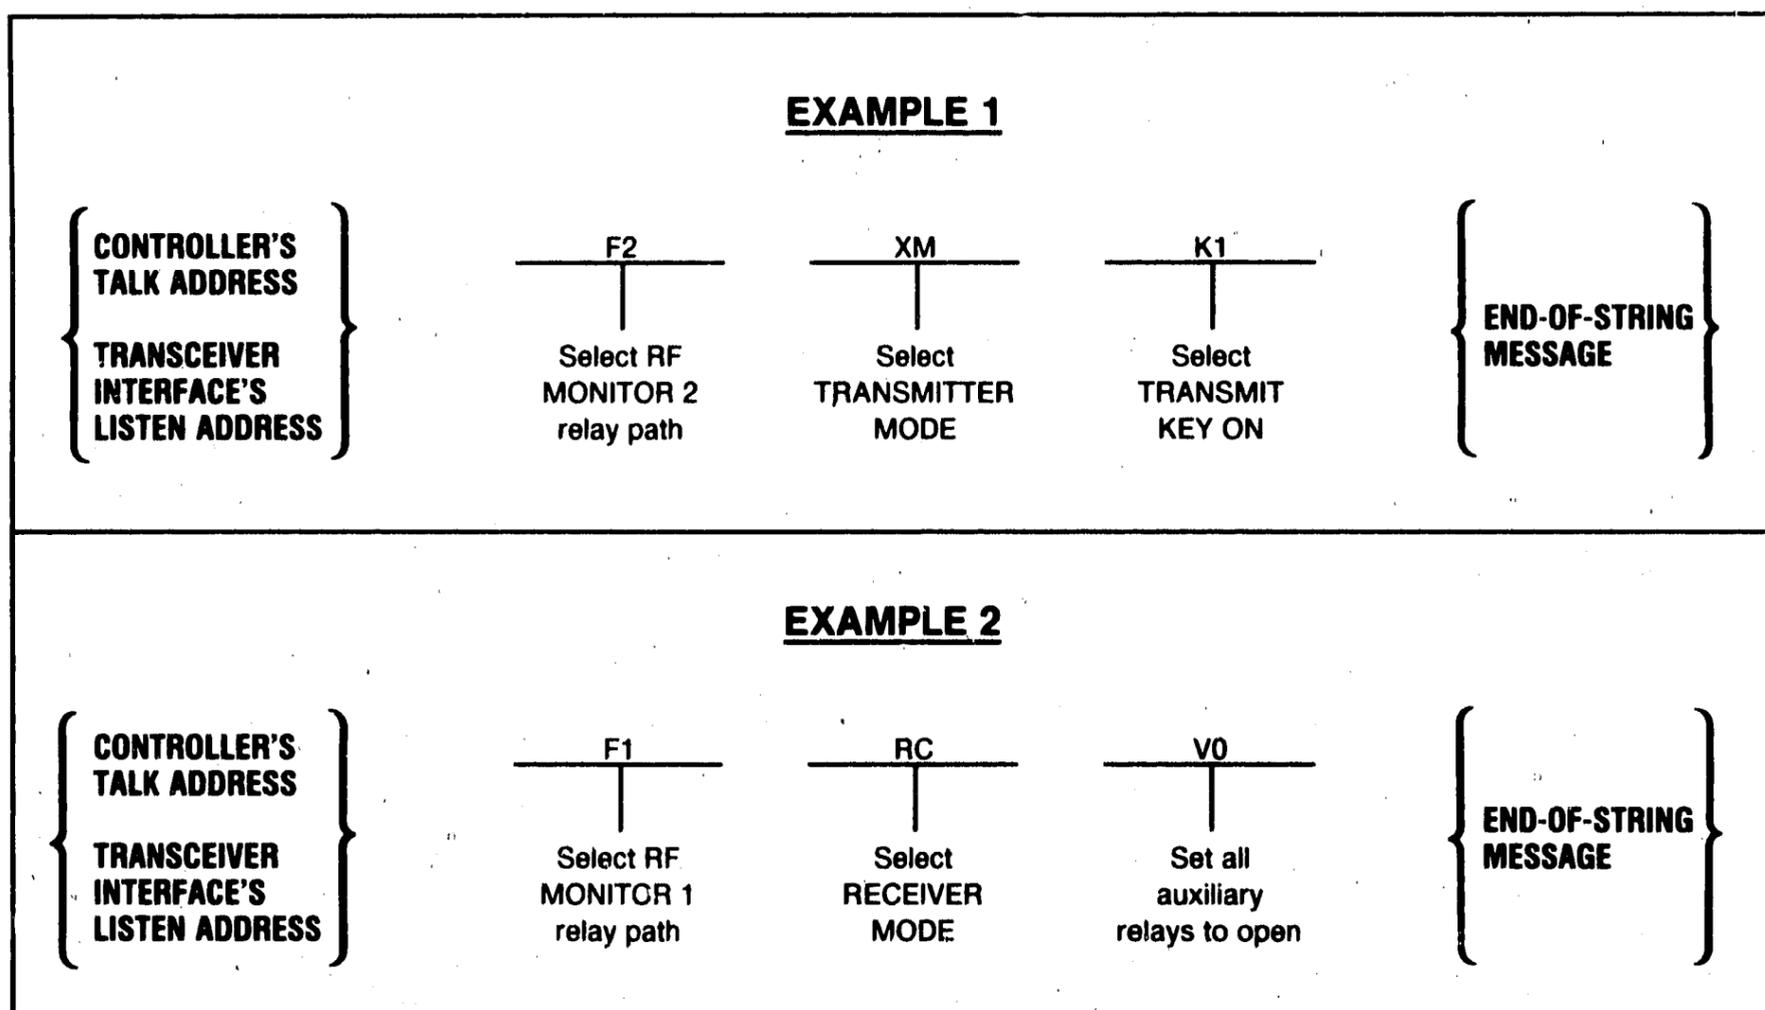

Figure 3-4. Data Message Examples
Data Message Input Format. Data messages contain the controller's talk address, the Transceiver Interface's listen address, a string of program codes, and an End Of String message (EOS). The auxiliary relay code can be entered at any place in the string. The EOS message can be a Line Feed (LF), a bus END message (EOI and ATN bus-control lines both set true), or an internally produced EOS. Figure 3-4 provides some examples of Data messages.